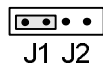

Fig.6 Input/output module jumper position J1
- The jumper on the input/output module must be plugged onto J1 (Fig. 6).